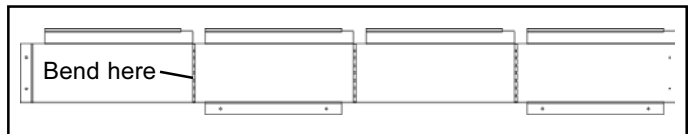

Figure 1 - BEK Extension Box - Blank
1. Bend one of the extension box sides into a box along the pre-punched, hand bent line. See Figure 1.